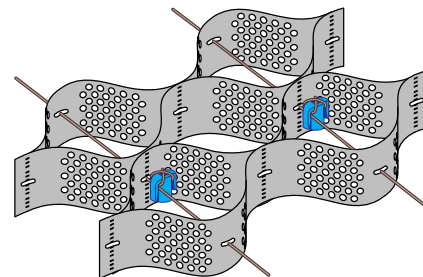

Figure 18 ATRA® Restraint Clips
- ATRA® restraining clips transfer load from the Geoweb sections to the tendons in such cases. See Figure 18.